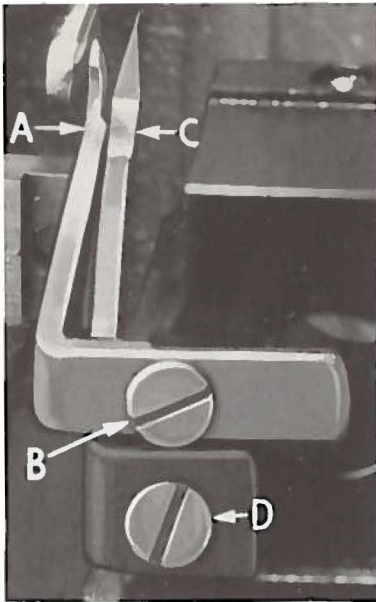

Fig. 5
Set rear needle guard (A, Fig. 5) as high as possible, without interfering with either lower looper or movement of lower knife holder; but still in position to deflect needle forward .002 - .004 inch. Screw (B) is used to set rear needle guard.
Assemble front needle guard (C, Fig. 5). When lower looper is springing needle off back guard, set front needle guard as close as possible to needle without touching. Screw (D) is used to adjust and set front needle guard. After this setting make sure there is no interference between needle guard and main feed dog.